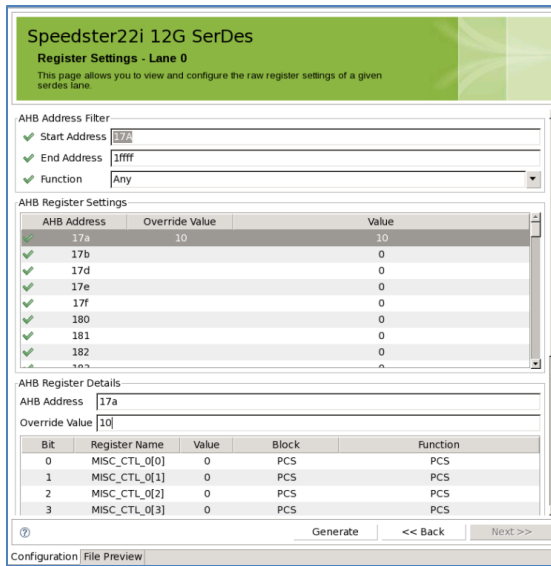

Figure 44: Changing Value of Register 17A to bypass PCS block
- type '10' (8'h10) in the text-field for Override Value ("Figure 44: Changing Value of Register 17A to bypass PCS block").
The signals (ports) shown in “Figure 44: Changing Value of Register 17A to bypass PCS block” and “The Ports of ACX_SERDES_SBUS_IF Module:” are detailed now.